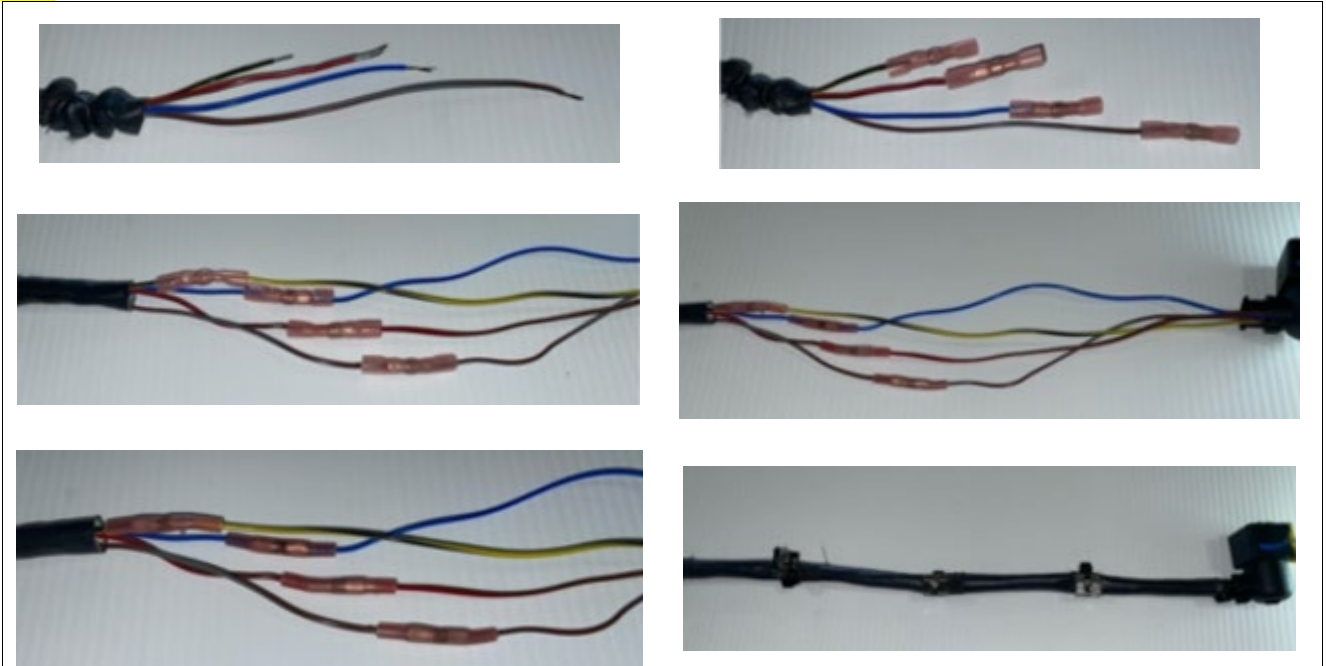

Figure 2: Complete as shown to properly secure the harness within the loom.
10. Cut the soot sensor connector off the ATS harness. See **Figure 2**.
14. Pull the ATS harness wire loom over the wires and crimp connectors, making sure no wires are exposed. See **Figure 2**.